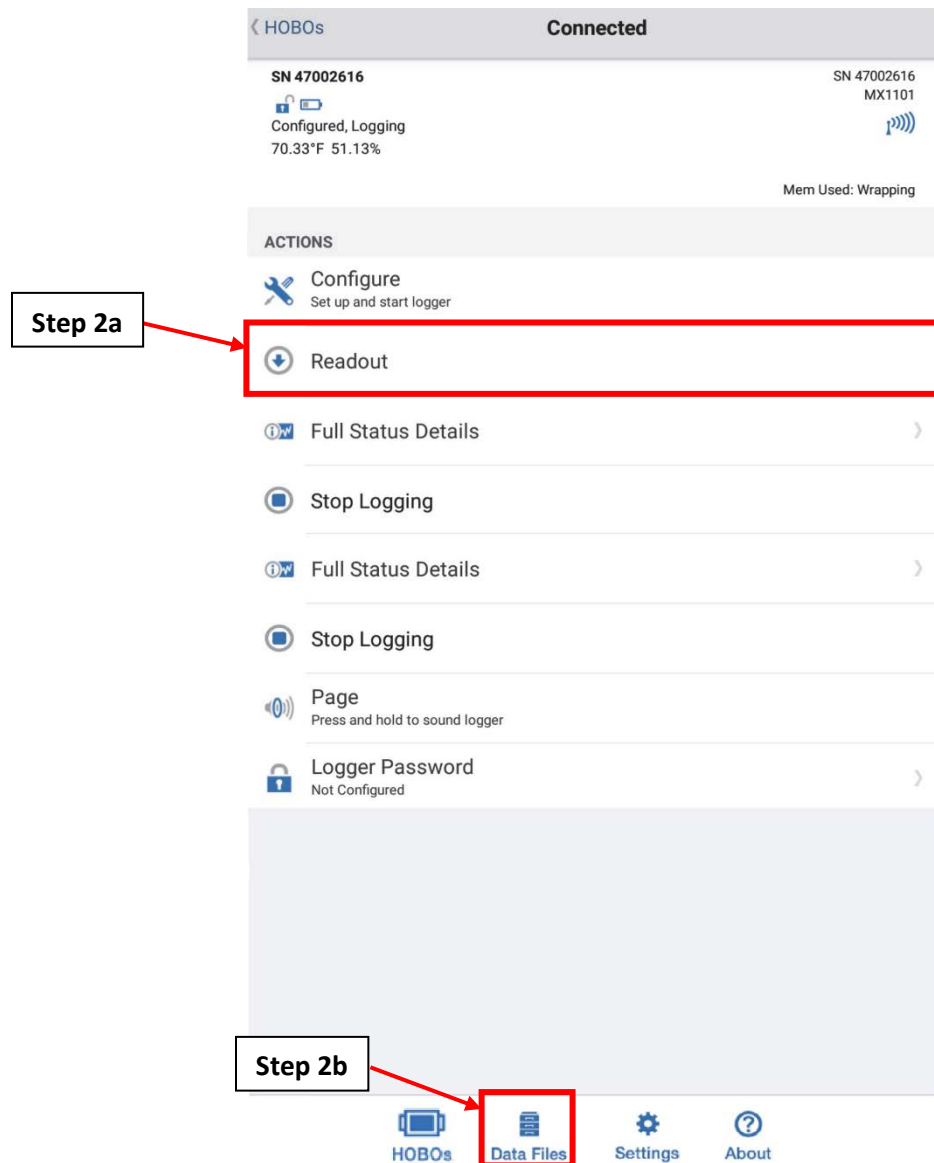

Figure A.6.18: The HOBOMobile “Connected” screen.
2. If satisfied with the accuracy of the measurements, follow steps 1, 2, and 3 in section A.6.5 to return to the “Connected” screen as shown on Figure A.6.18.